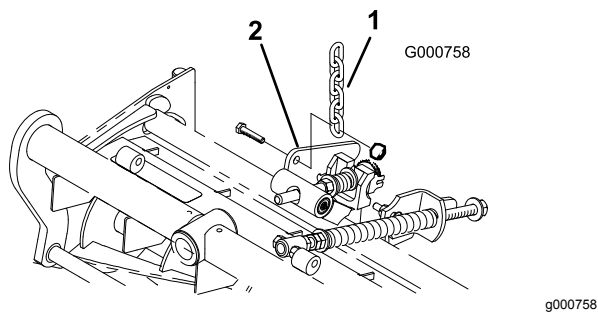

Figure 17
12. Remove nut securing turf compensation spring mounting bracket to cutting unit stabilizer ear (Figure 17). Install the tipper chain onto the cap screw and secure it with the nut that you previously removed.